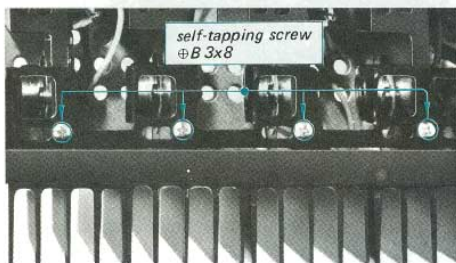

Fig. 2-7 Top heat sink removal
2. Remove the four self-tapping screws ($\text{Ø} B 3 \times 8$) securing the top heat-sink bracket as shown in Fig. 2-7.